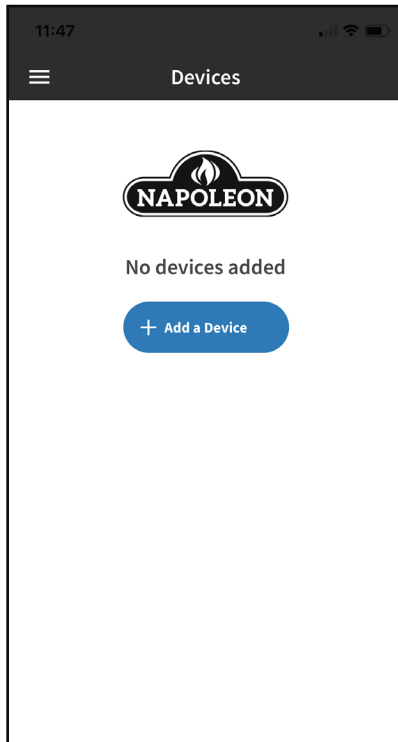

Fig. 3
3. Select "Add Device" and accept permissions (**Fig. 3 & 4**).